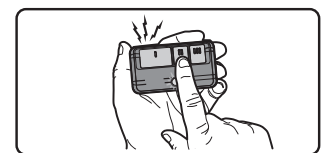

Figure 4
2. Press the button on the remote control that you wish to operate the smart light (Figure 4).